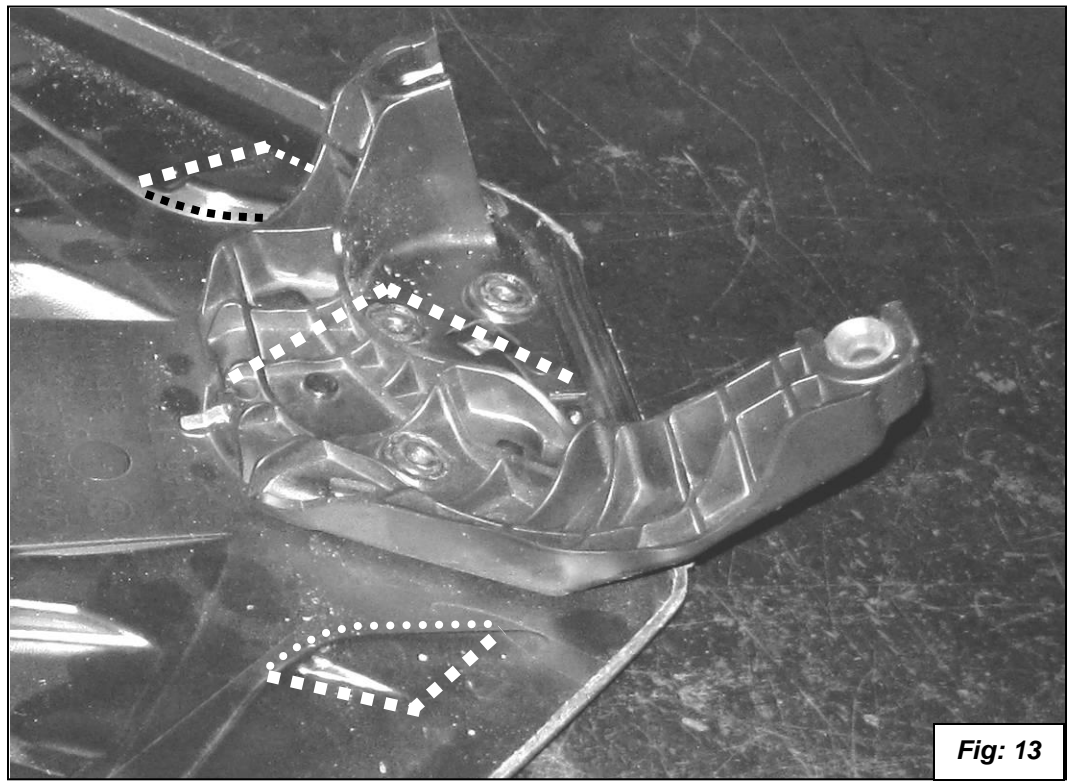

Fig: 13
9. Cut the mounting bracket as shown to remove the inner mount. Sand down the two raised bumps shown. Clean up the holes opened from sanding the bumps using files. Round out the lips on the cover in the two locations shown for clearance for the hose and expansion tank cap. See figures 13 and 14.